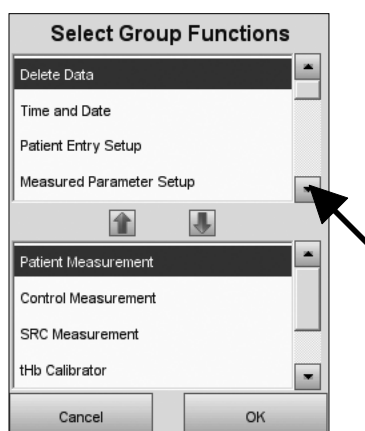

Fig. 3-56 Select Group Functions
6. Scroll down for the following additional options (Fig. 3-56):